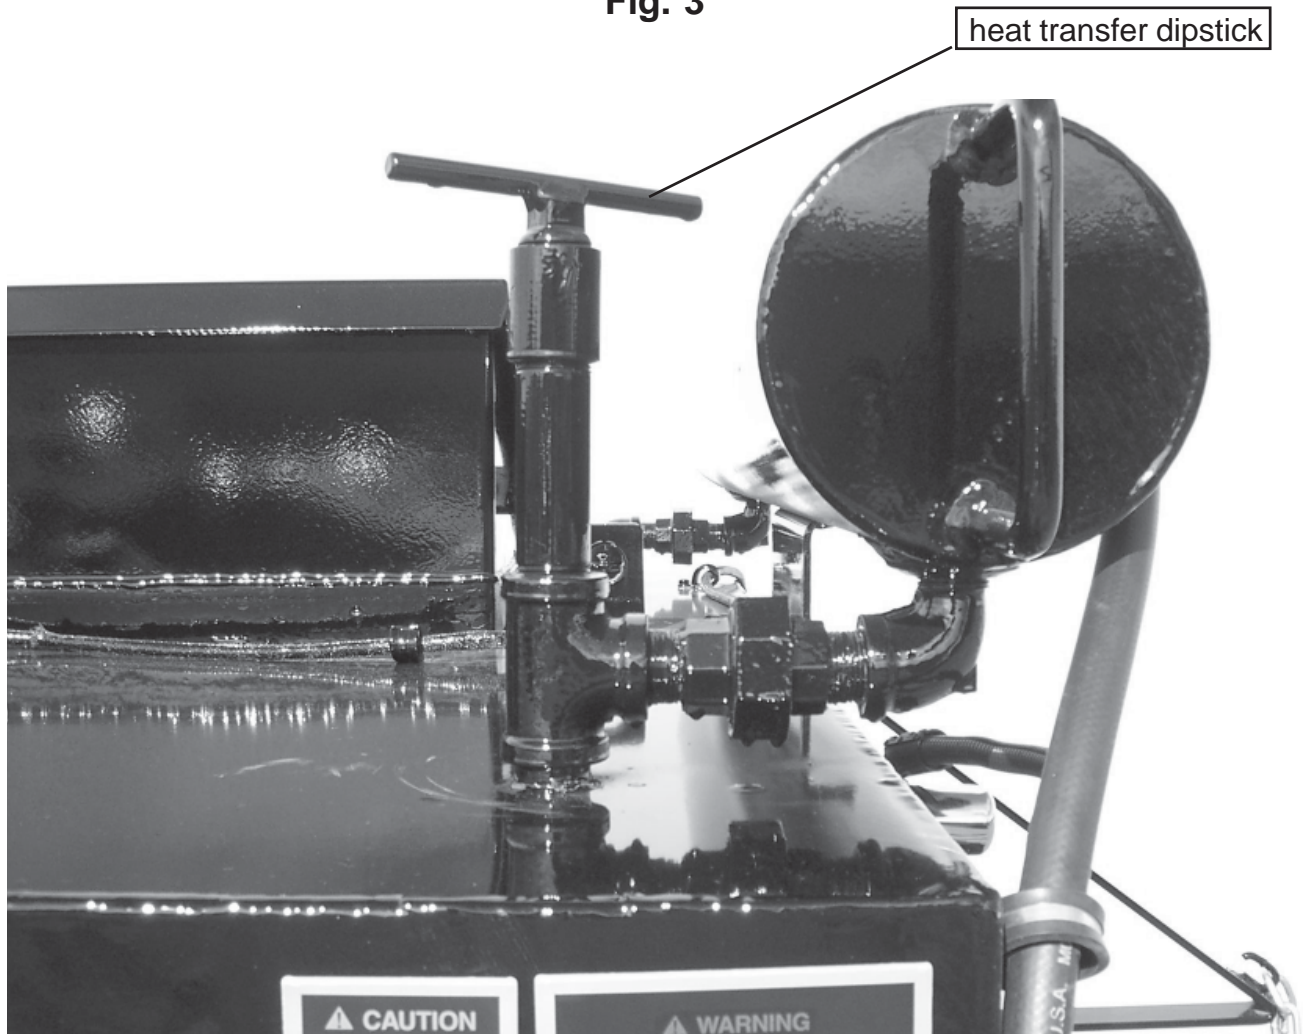

Fig. 4
4. Check heat transfer oil level (see Fig. 4). At 70°F., the oil should touch the dipstick.